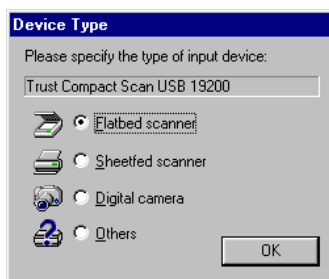

Figure 24: TWAIN settings
2. Start PhotoExpress 2.0 by double clicking on its icon on the desktop. The program will start. Figure 24 will appear.